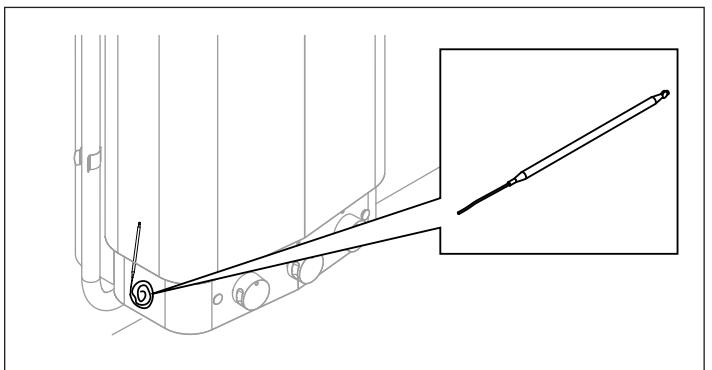
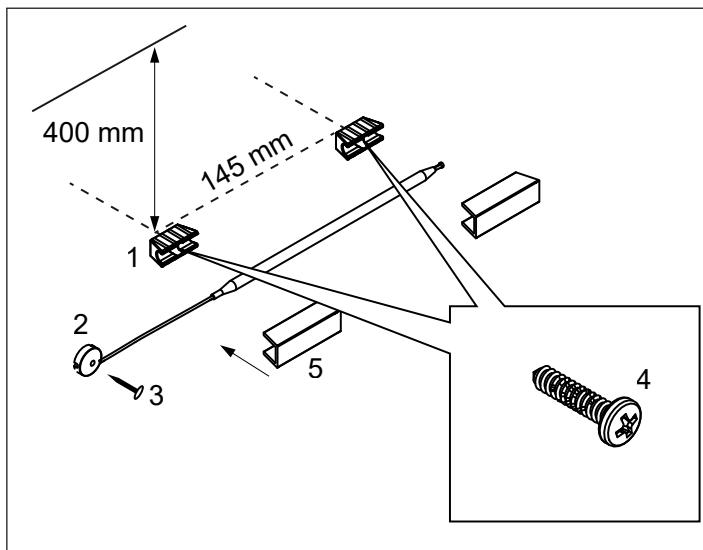

Figure 18: Finding the temperature sensor
Figure 16: Installing the temperature sensor
Install the temperature sensor holders (see (1) in Figure 16) 400 mm below the ceiling and 145 mm between using the two supplied screws (4).
Insert the temperature sensor (located on the side of the heater, see Figure 18) and attach the cover profiles. Secure the capillary tube with the clips (2) and the brad nail (3) (see Figure 16).